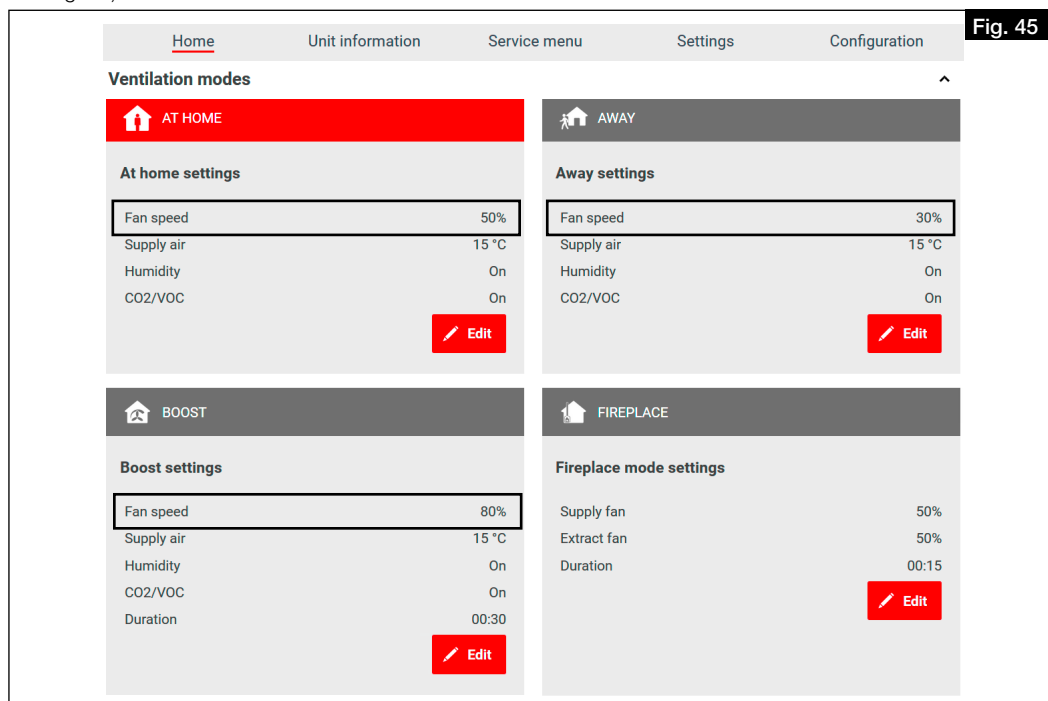
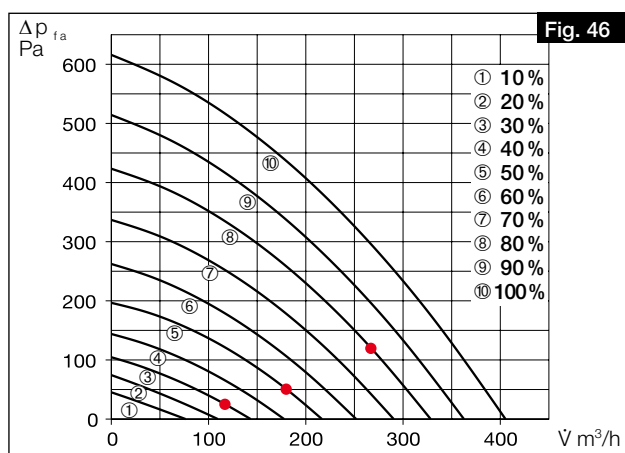

Fig. 45
Fig. 46
① Ensure approx. 20 cm straight settling section up to the measuring connectors!
2. Enter the following values for the fan powers in the respective ventilation profile via the easyControls software or the control element KWL-BE Touch: **Away:** 30 % / **At home:** 50 % / **Boost:** 80 % (cf. Fig. 45).
- Enter the determined differential pressures from the supply and intake air measurement in the unit characteristic curve for supply air (see Fig. 40 and Fig. 42) according to the fan outputs saved in the ventilation profile (cf. Fig. 45 and Fig. 46).
- Enter the determined differential pressures from the extract and exhaust air measurement in the unit characteristic curve for extract air (see Fig. 41 and Fig. 43) according to the fan outputs saved in the ventilation profile (cf. Fig. 45 and Fig. 46).